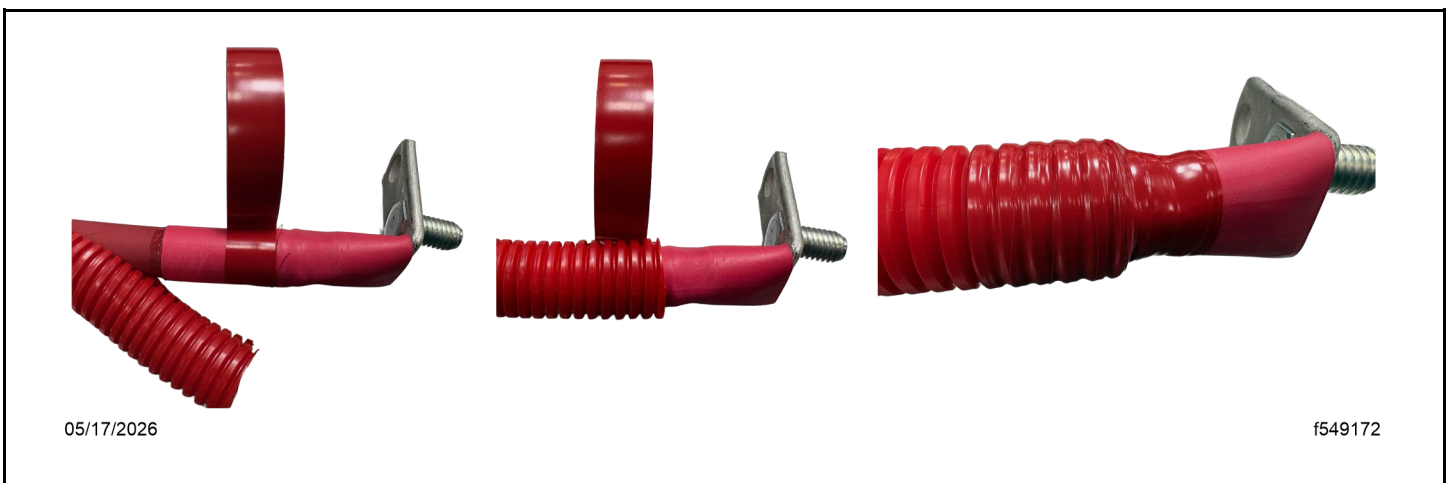

Fig 29, Installing the Convolute Cover
- d. Install the convolute cover by applying red electrical tape to cover the transition from the heat shrink to the convolute cover. See Fig. Fig. 29.